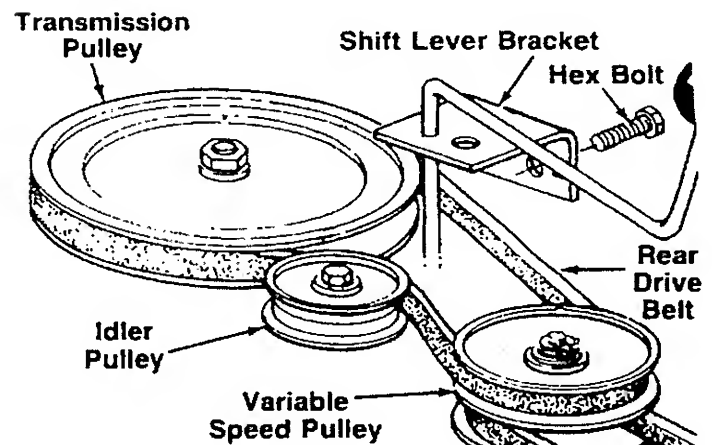

FIGURE 21.
3. Push the idler pulley toward the right side of the unit. Lift the belt over the idler pulley. See figure 21.
5. Remove the two bolts which hold the shift lever bracket to the frame on the left side of the unit. Swing the bracket toward the right so the belt can be removed from the transmission pulley. See figure 21.